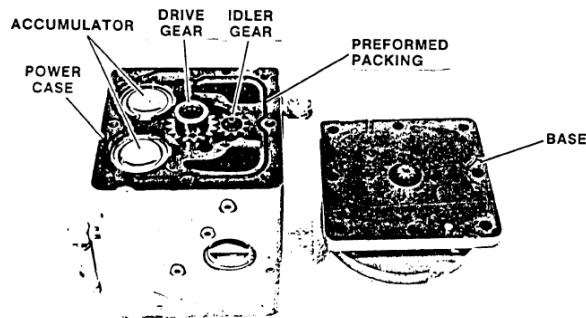

Figure 5-20. Power Case and Base
26. Remove drive gear and idler gear from power case (Figure 5-20).